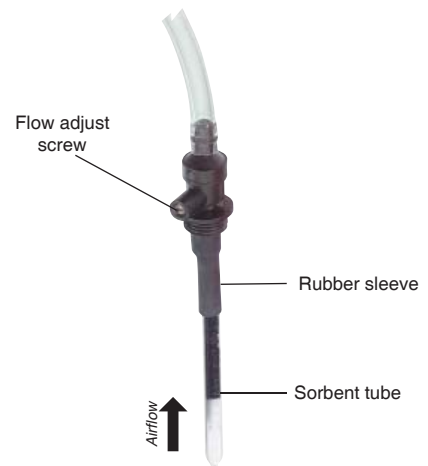

Figure 3. Single Adjustable Tube Holder with Sample Tube
Using Single Adjustable Tube Holder (*Figure 3*)
4. Insert an opened sorbent tube into the rubber sleeve (*Figure 3*) of the tube holder **with the arrow on the tube pointing toward the tube holder**.
6. Using flexible tubing, connect the exposed end of the sorbent tube to the calibrator outlet (suction port). Loosen the brass flow adjust screw (*Figure 3*) on the tube holder. Adjust the flow rate by turning the flow adjust screw (**counterclockwise to increase, clockwise to decrease**) until the calibrator indicates the desired flow. Take a minimum of three readings and record the average flow rate, as per OSHA/NIOSH instructions.